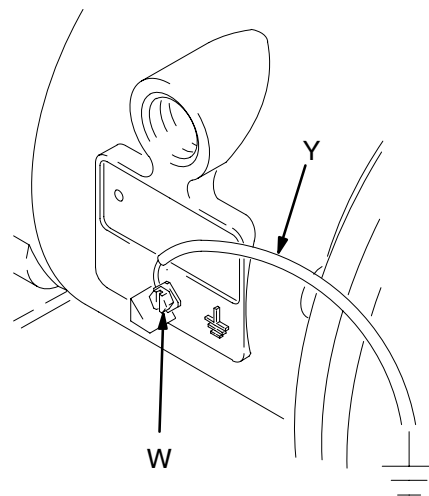

Fig. 1
*Polypropylene and PVDF* are **not** conductive. Attaching the ground wire to the grounding lug will ground only the air motor. When pumping conductive flammable fluids, **always** ground the entire fluid system by making sure the fluid has an electrical path to a true earth ground. See Fig. 1.
- *Air Motor*: Connect a ground wire and clamp as shown in Fig. 1. Loosen the grounding screw (W). Insert one end of a 12 ga (1.5 mm2) minimum ground wire (Y) behind the grounding screw and tighten the screw securely. Connect the clamp end of the ground wire to a true earth ground. Order Part No. 237569 Ground Wire and Clamp.